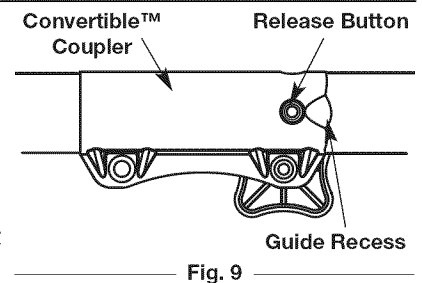

Fig. 9
2. Press and hold the release button (Fig. 9).
NOTE: Aligning the release button with the guide recess will help installation (Fig. 9).